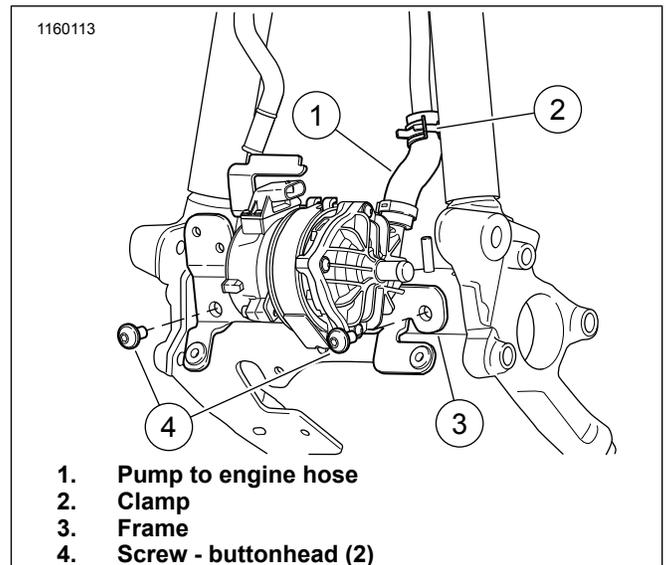

Figure 9. Installing Pump Assembly to Frame
13. See Figure 9. Install the pump assembly to frame (3).
a. Install **new** screw (4). Tighten.